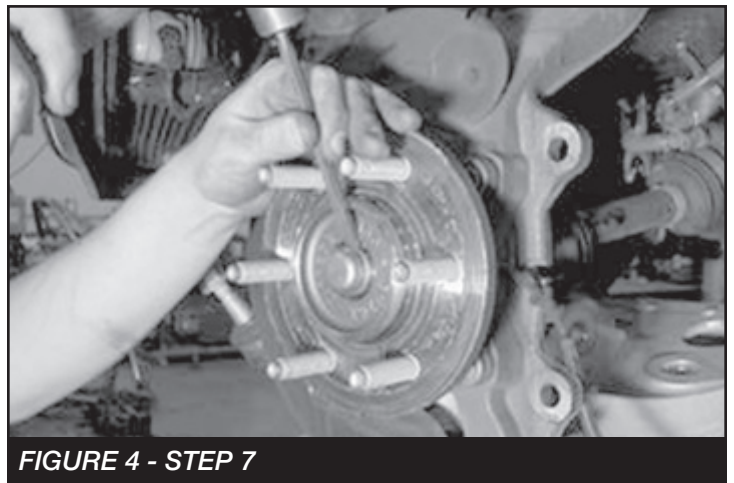

FIGURE 4 - STEP 7
7. Carefully remove the dust cap covering the hub assembly nut. Remove the C.V. bearing nut and save the nut and dust cap. **SEE FIGURE 4**